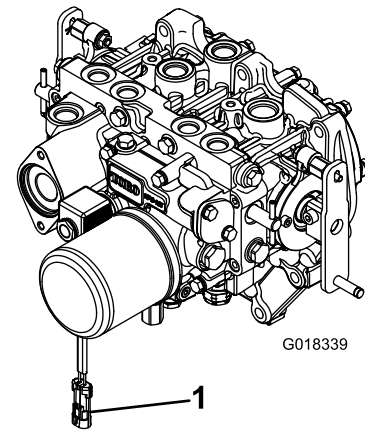

Figure 4
2. To prevent the unintentional engagement of the PTO clutch, disconnect the wire harness electrical connector from the PTO solenoid valve coil connector (Figure 4).
8. After the other end of the drive shaft is connected to the attachment gear box shaft, connect the wire harness electrical connector to the PTO solenoid valve coil connector (Figure 4).